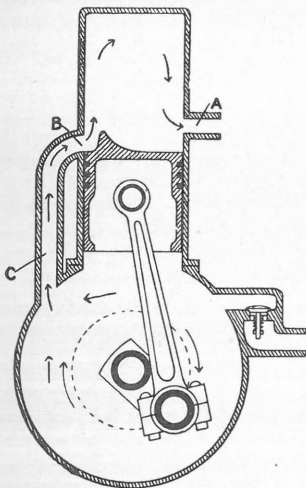

Fig. 13.
Next we come to Fig. 13. Here the piston has moved still lower, and is almost at the bottom of its stroke. It will be seen that it has opened another port (marked B) on the other side of the cylinder. This port is connected by the pipe (C) with the crankcase, where, as we have seen,